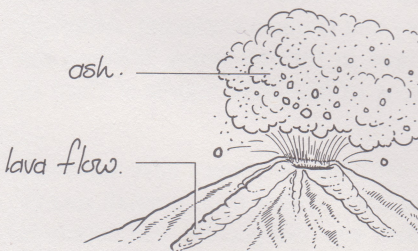

FIGURE 5 Igneous rock is formed from volcanoes.
- 2 **Igneous rocks**—these are formed as molten material becomes solid when it cools, either at the surface (Figure 5) or deep underground. (The word igneous comes from the Latin ignis: 'fire').